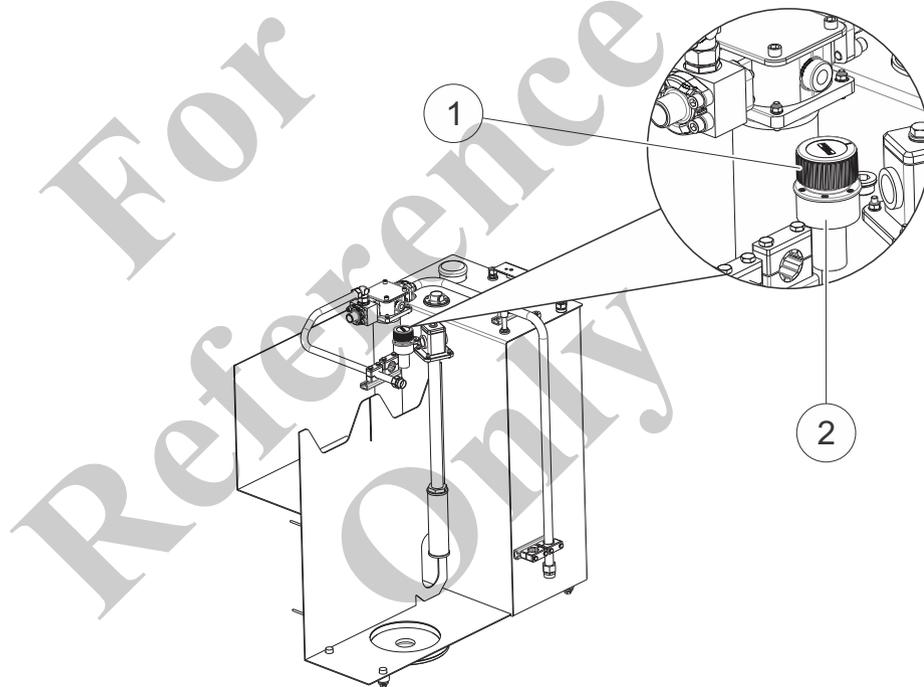

Fig. 213 Ventilation filter
1	Unscrew the screw cap (1) in Fig. 213 on the hydraulic tank.
2	Pull out the filter element (2) in Fig. 213 and dispose of it in accordance with applicable environmental standards.